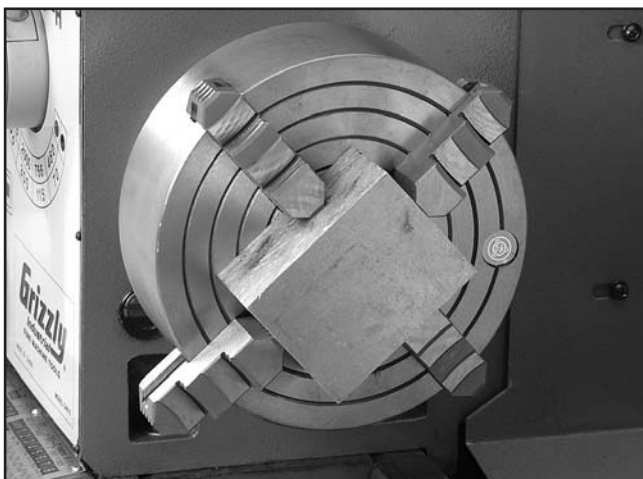

Figure 30. Properly held workpiece for offset machining at low RPM.
7. After the workpiece is held in place, back the tailstock away and rotate the chuck by hand. The center point will move if the workpiece is out of center (see **Figure 30**).